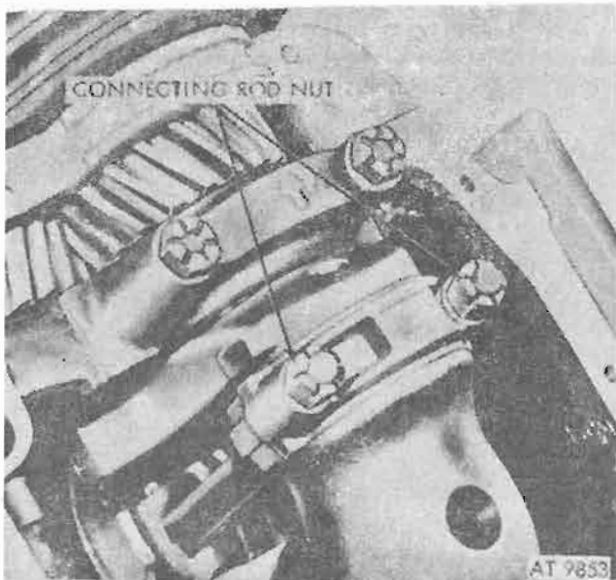

Figure 4-94. Connecting rod retaining nuts.
c. **Connecting Rod Retaining Nuts.** Turn crankshaft until piston of connecting rod being removed is at bottom of cylinder bore. Remove selflocking hex nuts from connecting rod bolts (fig. 4-94).